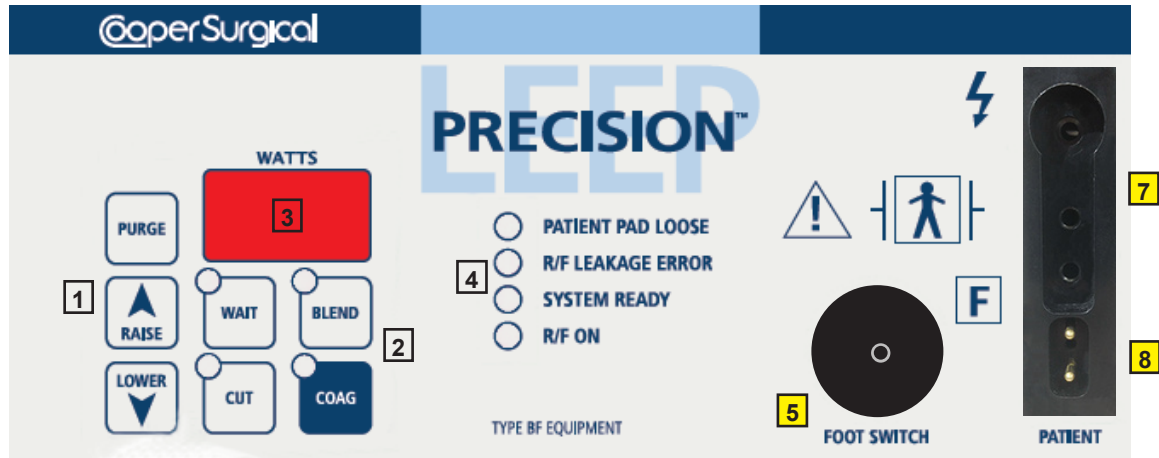

Figure 2
Connect the Foot Pedal Switch to the socket **5** shown in Figure 2 if foot control is desired.
- Connect the Active Electrode to socket **7** shown in Figure 2.
A 4 mm Reusable Electrosurgical Adapter is supplied with the LEEP PRECISION Integrated System (found in the LEEP PRECISION Generator box). Use the Foot Switch-Operated Electrode with the Adapter. The Electrode is plugged into the Adapter, which is then plugged into socket **7** shown in Figure 2.
- Connect the Dispersive Electrode to socket **8**. Refer to Figure 2.